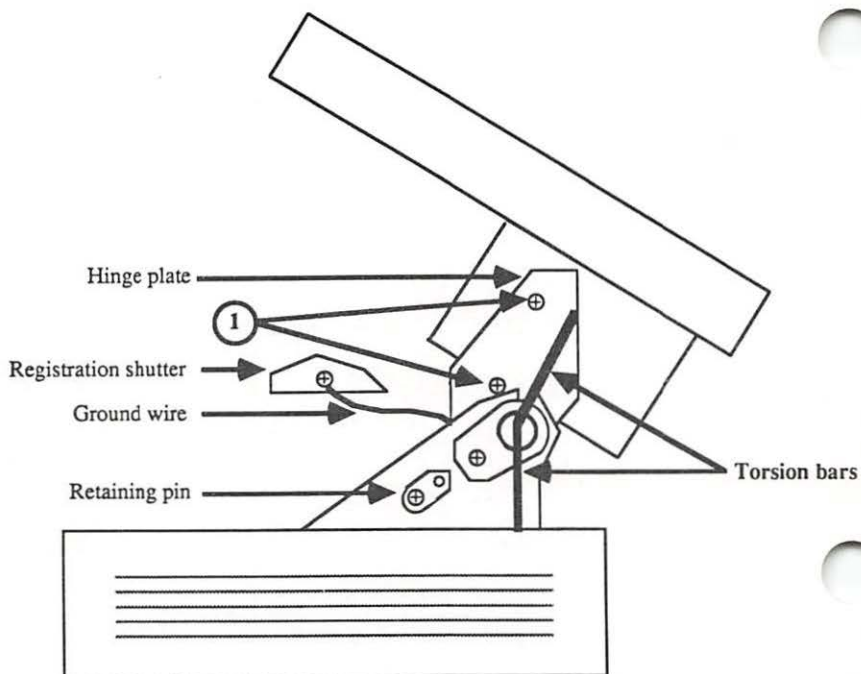

FIGURE 2-31
3. To allow the printer to open wider, remove the two retaining pins (one at each side) (see Figure 2-31).